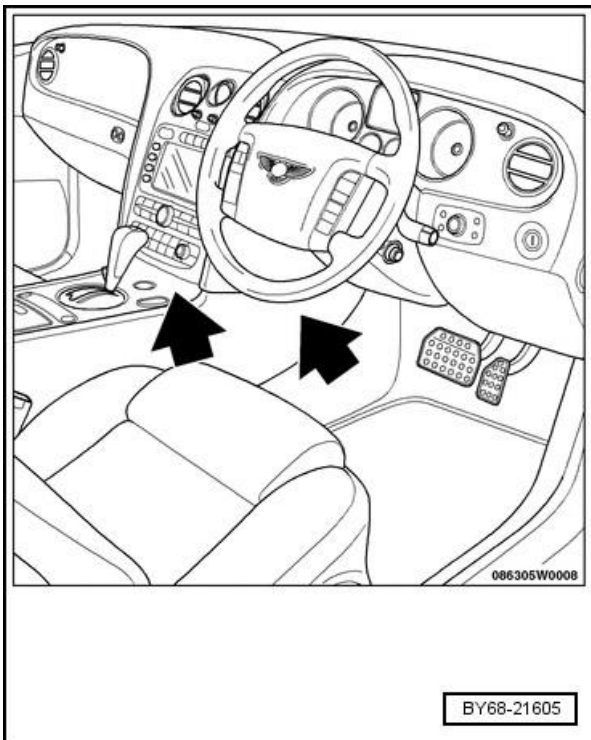

Figure 1
3. Note the front centre console is secured to the dashboard by two side buttons and two screws located under the fascia panel, arrows figure 1